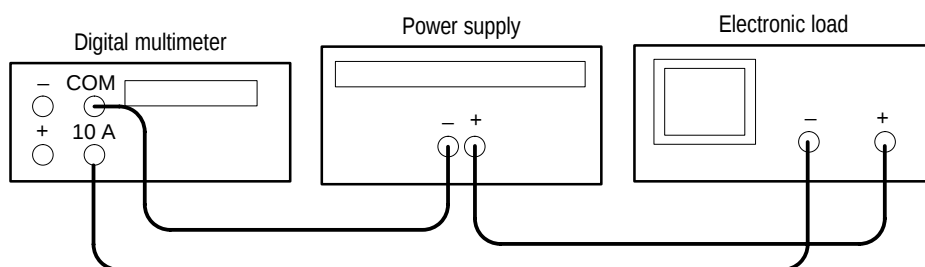

Figure 5: Constant Current Load Test Setup
2. Ensure that the power supply output is disabled. Connect the DMM and electronic load to the front panel OUTPUT 1 terminals. See Figure 5 for details.
21. Ensure that the power supply output is disabled. Connect the DMM and electronic load to the front panel OUTPUT 2 terminals. Maintain the equipment configuration and polarities shown in Figure 5.
2. Ensure that the power supply output is disabled. Connect the DMM and electronic load to the front panel OUTPUT 3 terminals. Maintain the equipment configuration and polarities shown in Figure 5.